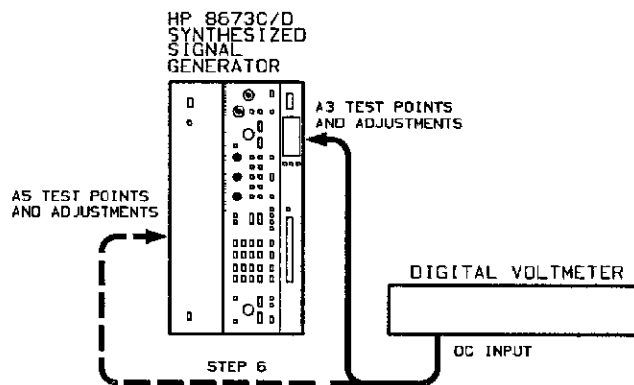

Figure 5-4. Power Supply Adjustment Test Setup
2. Place the A5A9 Bd in the test position (service sheet B "Disassembly"). Place the instrument up on its side for easy access to all adjustments. See figure 5-4.